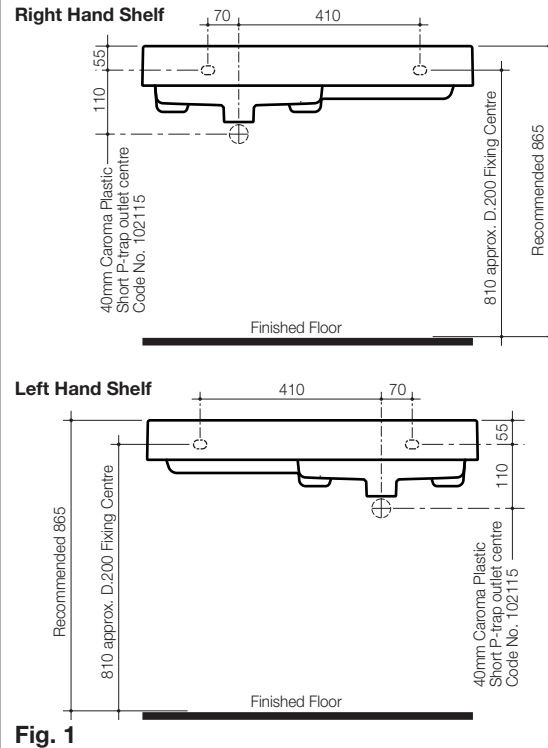

Fig. 1
For timber stud walls, nogginns and studs must be positioned at a height to allow for the location of fasteners as detailed in **Fig. 1**.
- 1- Mark fixing screw hole position on finished wall at the recommended height as detailed in **Fig. 1**.